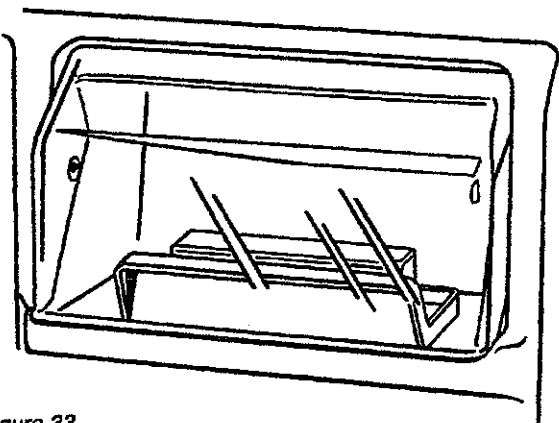

Figure 33
- e. Storage compartment on some models has removable, hand-washable tilt-up door. See Figure 33.